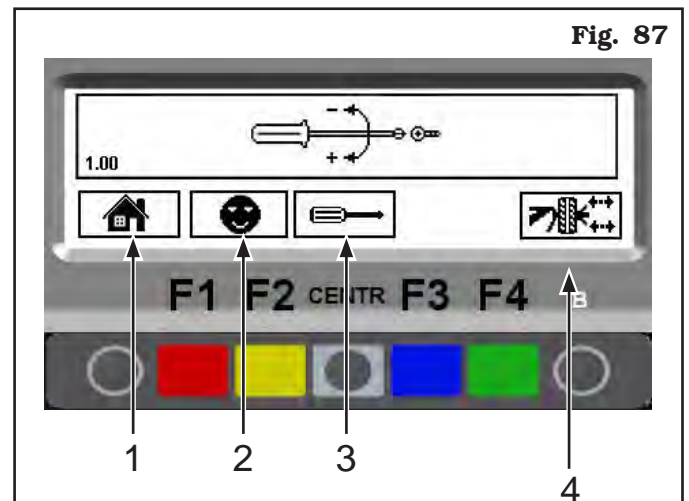

Fig. 87
Type in the password **F1-F2-CENTR-F3**. The program will show the screen in **Fig. 87**:
- 1 - Return to **Fig. 87** screen page (RED) (F1)
- 1 - Return to the image in **Fig. 87** (RED) (F1)
Enter password **F1-F2-CENTR-F3** to access the “customer configuration” screen page (see **Fig. 87**).
screen page (**Fig. 87**). Press the  key and then press 5 successive times the “F4 key”
Enter password **F1-F2-CENTR-F3** to access the "customer configuration" screen page (**Fig. 87**).